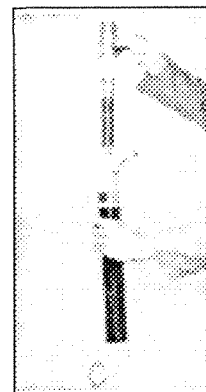

Fig. 5.
3. Slide this assembly into the fuse holder, *Fig. 5*.